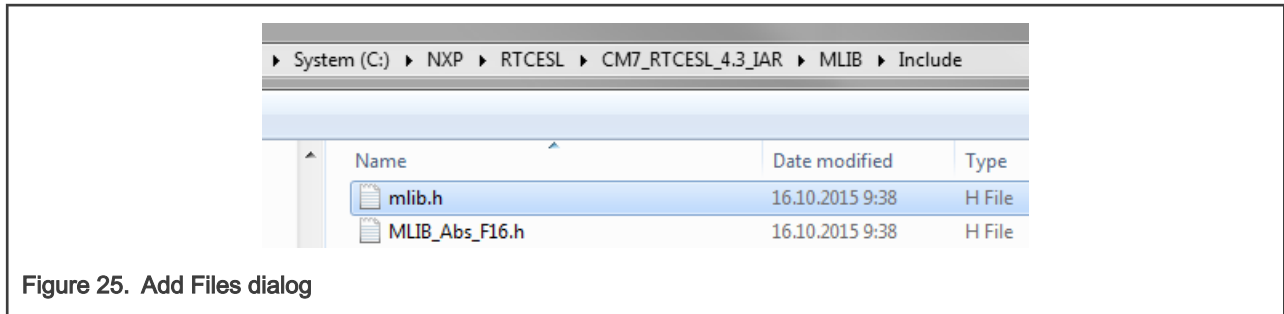

Figure 25. Add Files dialog
5. Navigate into the library installation folder C:\NXP\RTCESL\CM7\_RTCESL\_4.7\_IAR\MLIB\Include, and select the *mlib.h* file. (If the file does not appear, set the file-type filter to Source Files.) Click Open. See Figure 25.